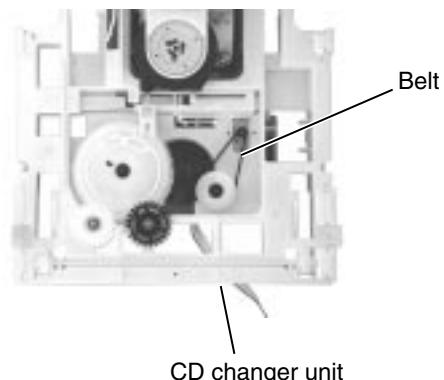

Fig.33
■Removing the belt, the CD servo board and the switch board (See Fig.33 and 34)
Attention : Solder is put up before the card wire is removed from the pick-up unit connector on the CD mechanism assembly. (Refer to Fig. 33) (When the card wire is removed without putting up solder, the CD pick-up unit assembly might destroy.)